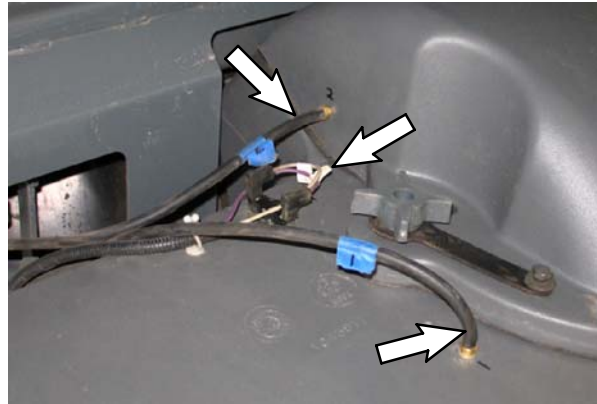

FIG. 3
7. Disconnect the vacuum hoses and the main wire harness from the hopper assembly. Refer to Fig. 3.